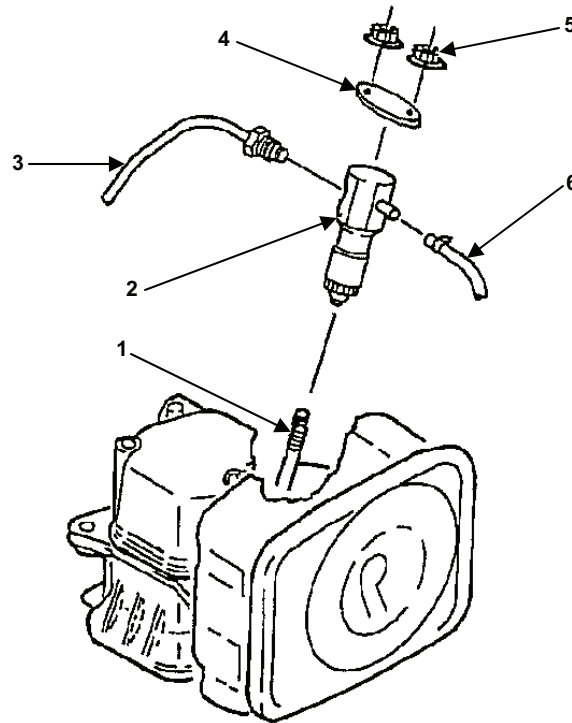

Figure 6. Fuel Injector Assembly.
1. Remove fuel delivery line (Figure 6, item 3) and fuel return line (Figure 6, item 6) from the fuel injector (Figure 6, item 2).
2. Remove mounting nuts (Figure 6, item 5) and retaining plate (Figure 6, item 4) from studs (Figure 6, item 1).
3. Remove fuel injector (Figure 6, item 2).
2. Connect the fuel delivery line (Figure 6, item 3) and fuel return line to the fuel injector (Figure 6, item 2).
1. Place fuel injector (Figure 6, item 2) in the engine block and secure with retaining plate (Figure 6, item 4) and nuts (Figure 6, item 5).
2. Install fuel delivery line (Figure 6, item 3) and fuel return line (Figure 6, item 6) on the fuel injector (Figure 6, item 2).